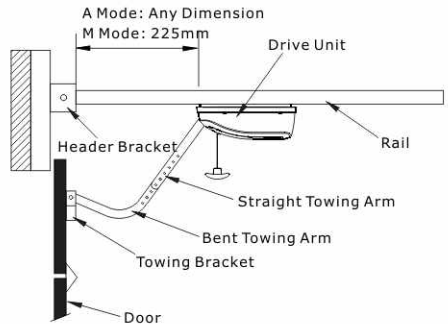

Fig. 9
- i. Adaptive mode ~ any distance from the end of the Drive Rail.(Fig.9)
- ii. Manual Mode ~ 225mm from the end of the rail to the front of the Drive Unit. (Fig.9)